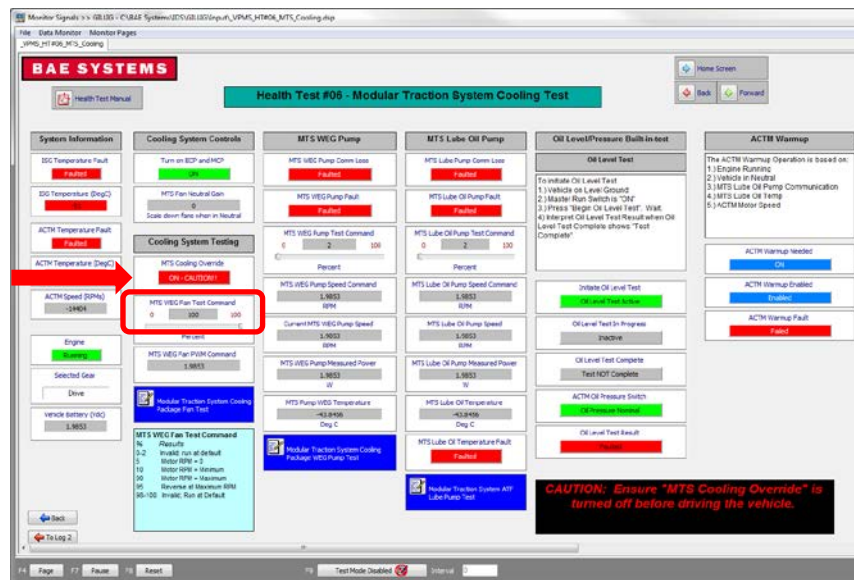

Figure 5 – Cooling System Controls
3. Click on MTS Cooling Override and drag slider to 100% while filling surge tank. See Figure 5.